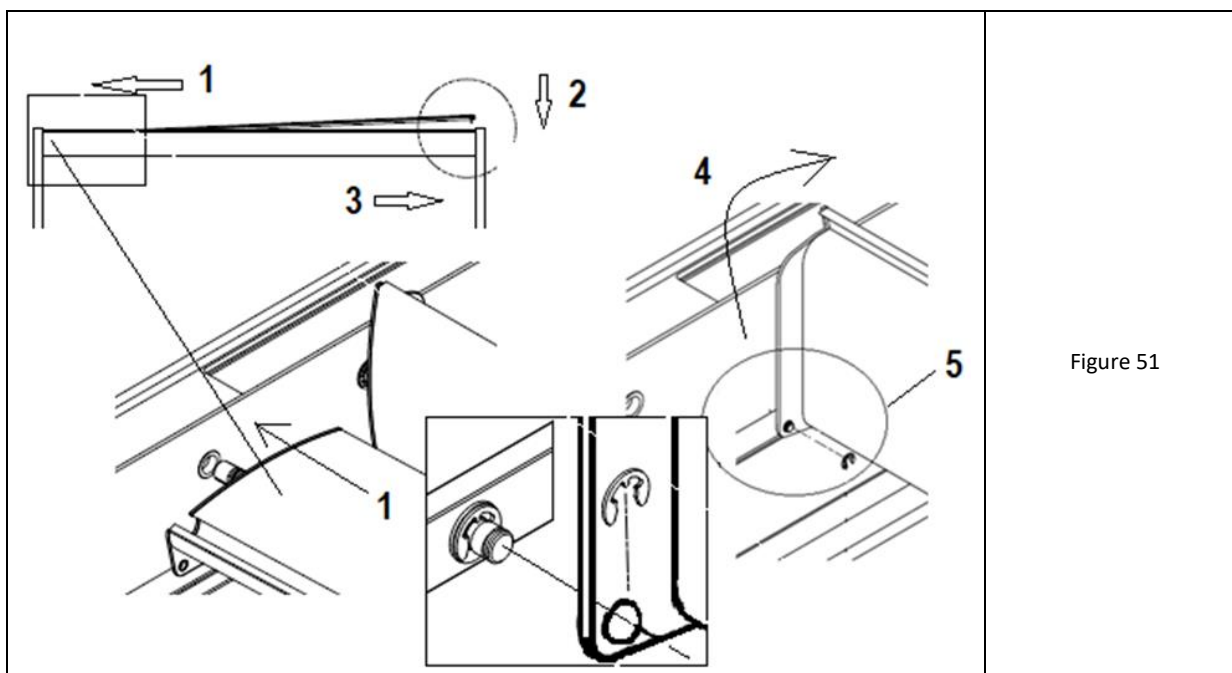

Figure 51
22. Install the next blades starting from the places already installed towards the ends of the pergola. Set the blade horizontally over the beam, tilt it and insert it with the shaft from the drive side into the hole in the beam. When pushed in as far as possible, lower the opposite end and insert it into the beam as well (steps 1 to 3 in Fig. 51).
23. Insert the pin in the rod from the beam side (fig. 51). When pressing in, be careful not to push out the slip rings.
24. Move the blade to the drive beam and turn it vertically to place the rod pin in the hole in the lower corner of the drive end cap. Check the presence of the slip ring in the end cap and do not push it out. Secure the visible end of the pin with a small snap-ring exactly in the groove of the pin (fig. 51) - use the dedicated tool.